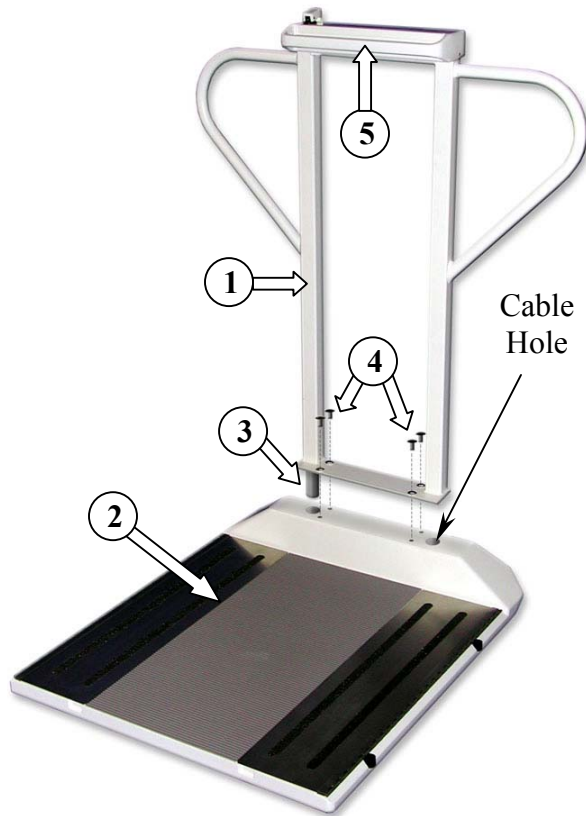

Figure 1: Scale Assembly Diagram
STEP 3: (Figure 1) Insert the four (4) 3/8-16 screws (4) into the holes in Mast Assembly and Base Assembly as indicated. Secure the Mast Assembly by tightening the screws into Base Assembly.
STEP 4: Gently rest the scale on its side. Verify that the serial number on the bottom of the Display Unit (5) matches that on the Battery Compartment Cover (6), located in the Base Assembly between the wheels.
STEP 5: Remove the Height Bar Set Screws (7) and apply a small amount of Loctite® to each. Reinstall setscrews and tighten securely.
STEP 2: (Figure 1) Position the Mast Assembly (1) into the Base Assembly (2) as shown, while feeding the display cable through the cable hole on the right. Ensure the Height Bar (3) seats correctly in the Base Assembly.